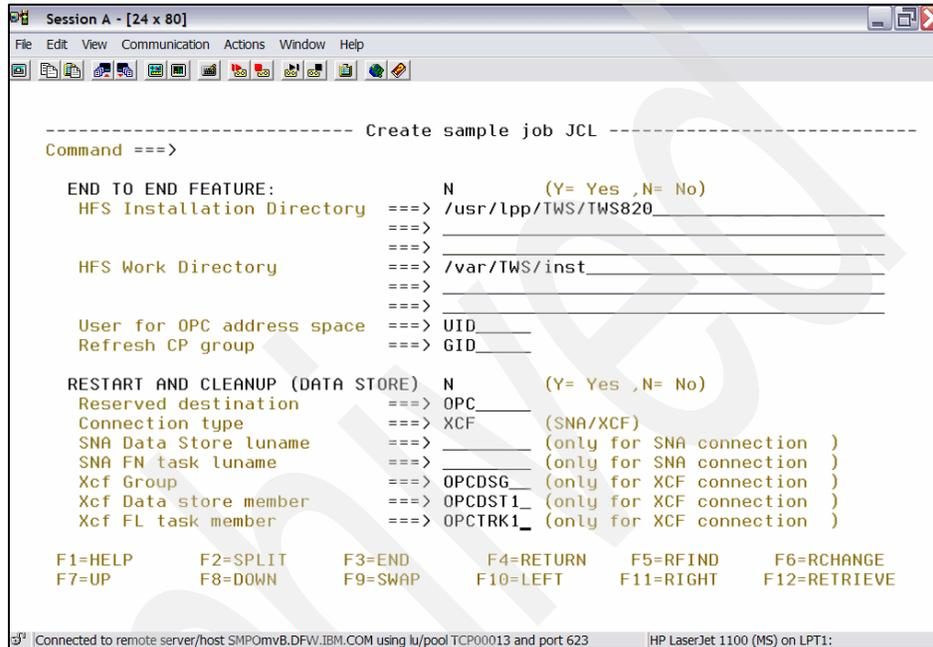

Figure 1-4 EQQJOBS data set entries
- Press Enter to display the window in Figure 1-4. On this frame we will not install the end-to-end feature.